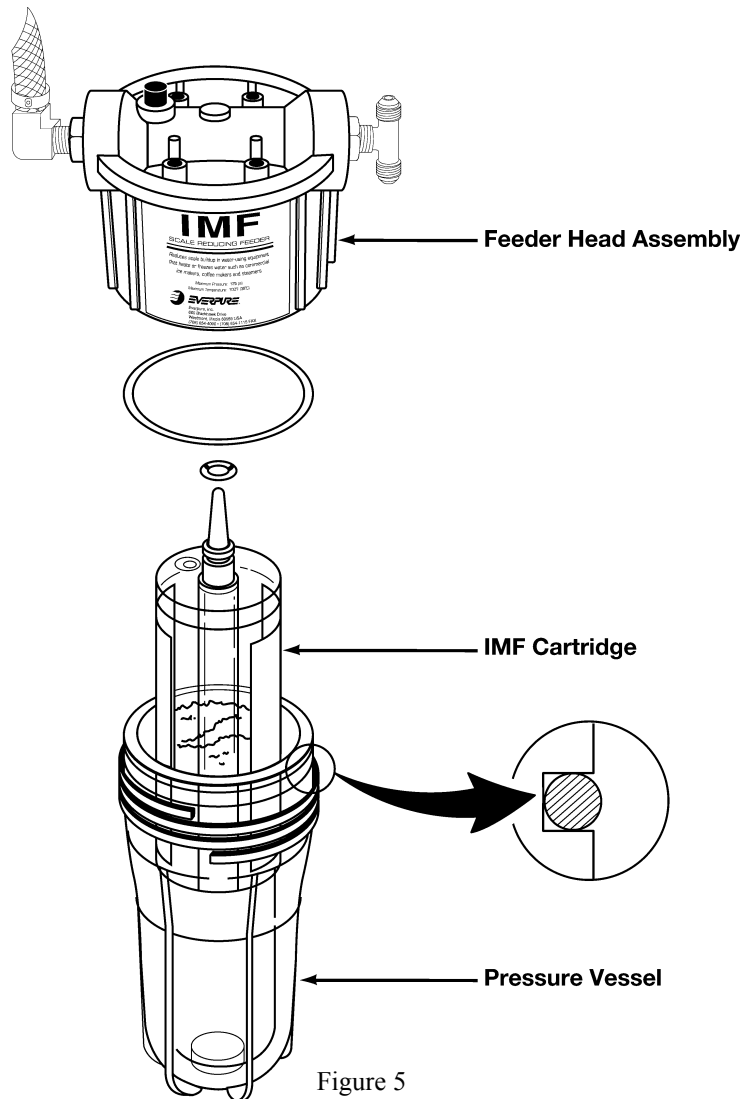

Figure 5
6. REMOVE PROTECTIVE WRAPPING and place new IMF cartridge up into the hole in the IMF head. Push the cartridge until it stays by itself in the head. (Figure 5)